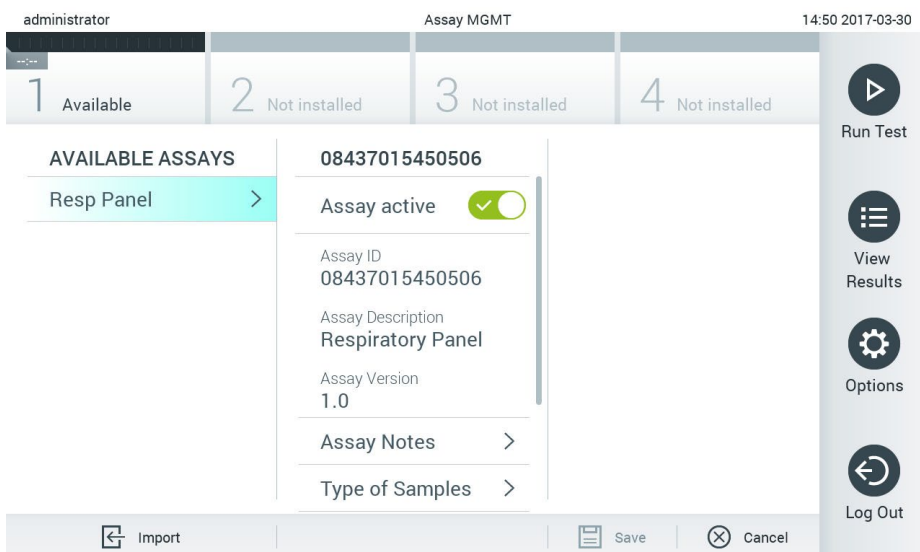

Figure 66. Managing available assays.
1. Press **Options > Assay Management** button to access the Assay Management screen. The available assays are listed in the first column of the content area (Figure 66).